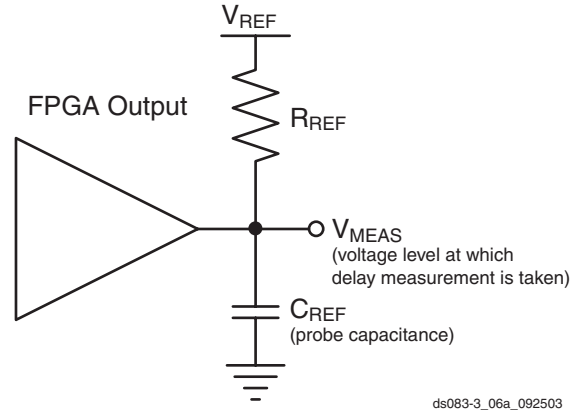

Figure 1: Generalized Test Setup
- Note that this is an input voltage reference that bears no relation to the  $V_{REF} / V_{MEAS}$  parameters found in IBIS models and/or noted in Figure 1.
Output delays are measured using a Tektronix P6245 TDS500/600 probe (< 1 pF) across approximately 4" of FR4 microstrip trace. Standard termination was used for all testing. (See Virtex-II Platform FPGA User Guide for details.) The propagation delay of the 4" trace is characterized separately and subtracted from the final measurement, and is therefore not included in the generalized test setup shown in Figure 1.